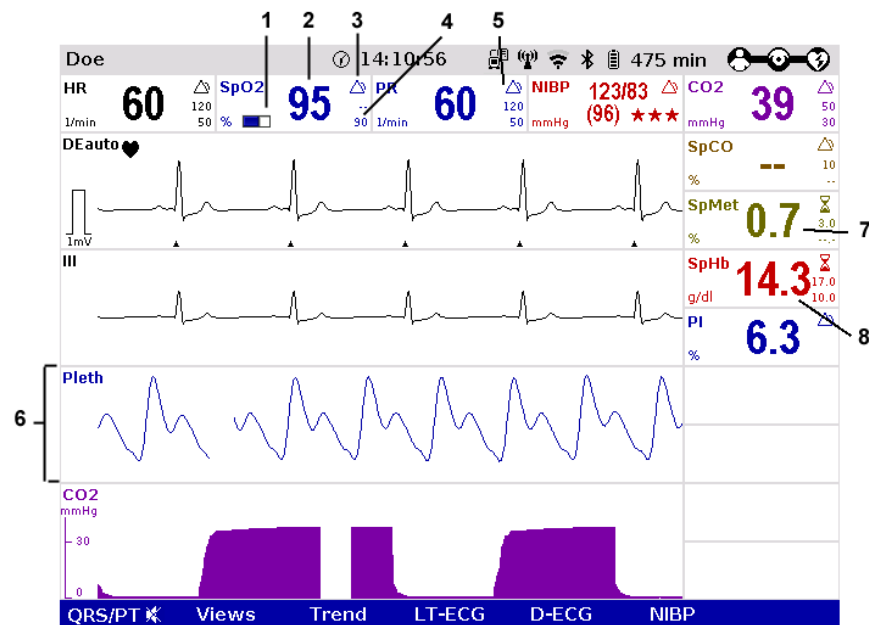

Fig. 6-20 Oximetry monitoring, configured screen (illustration may differ)
The signal intensity is a quality criterion for the capturing of measurement values. The signal intensity is measured and displayed as a horizontal bar in the parameter field SpO₂ (see page 126 Fig. 6-20, item 1).